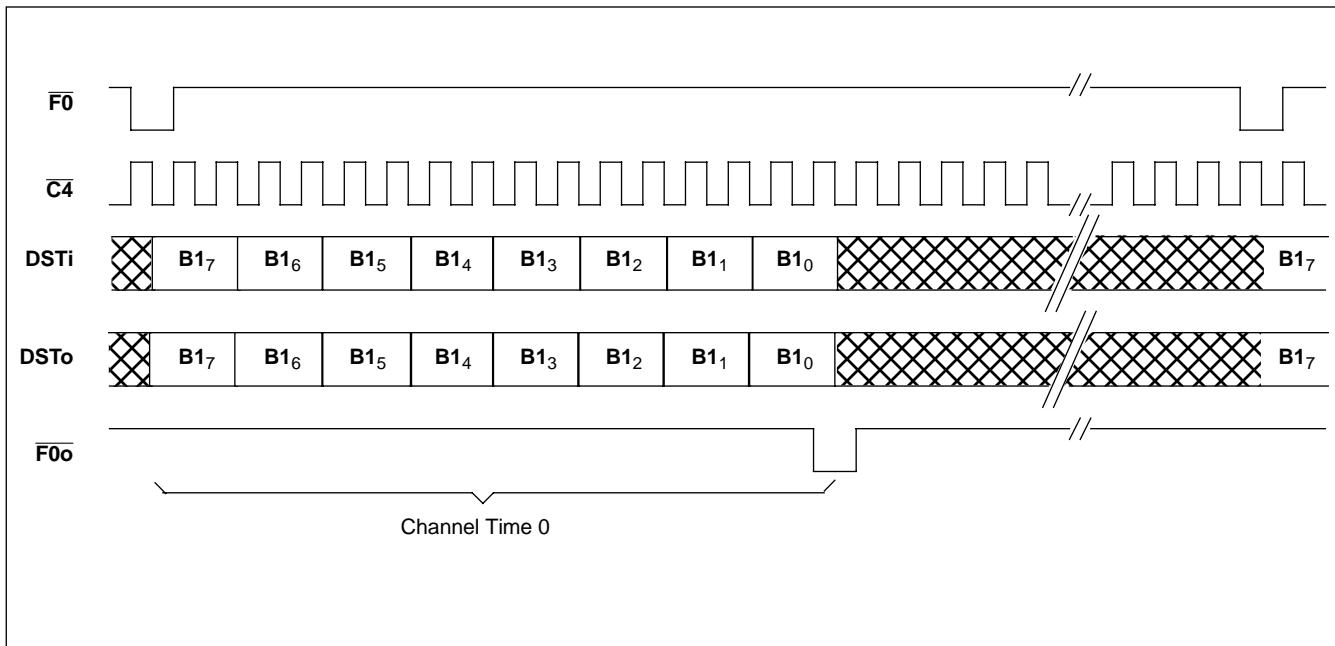
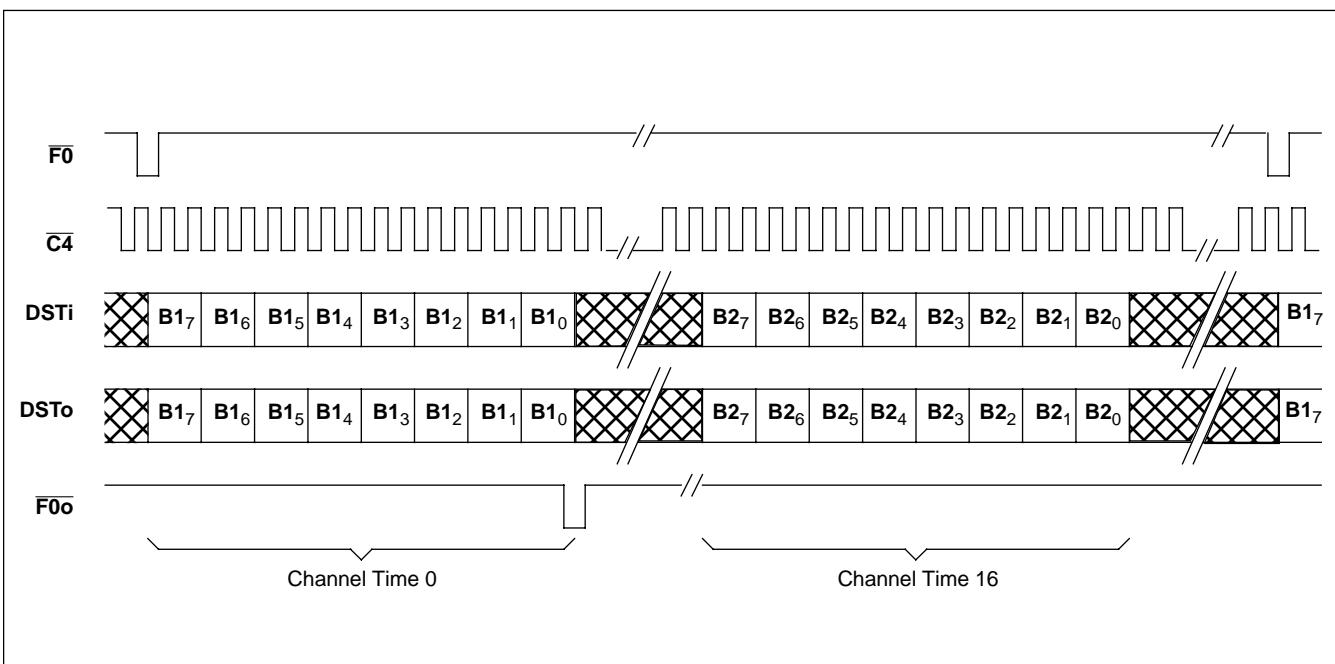
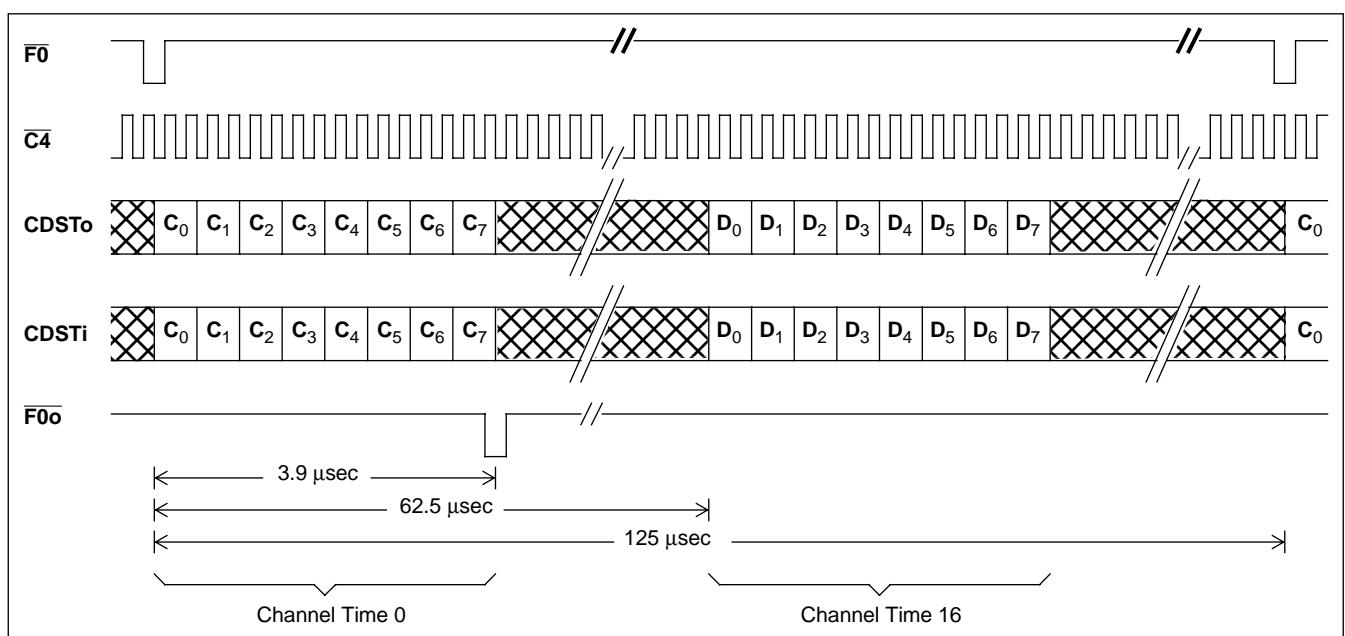
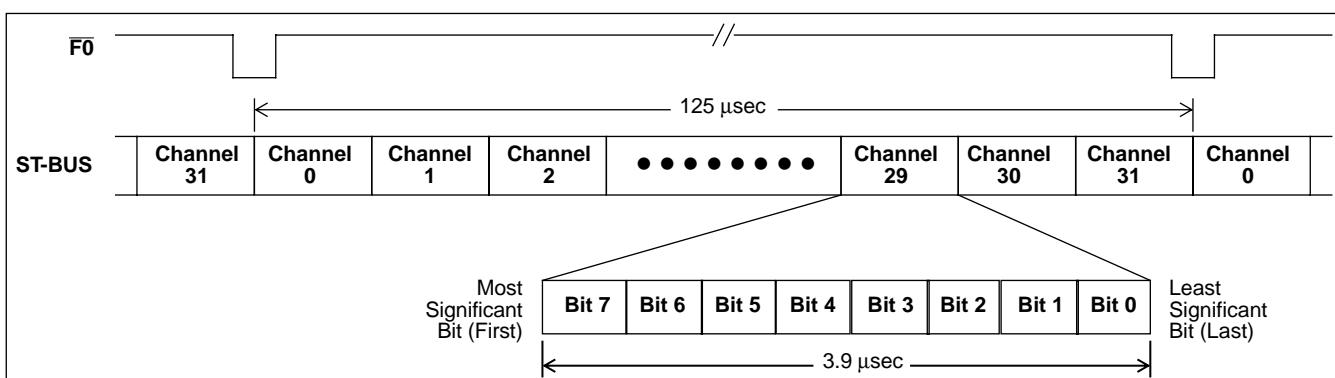

Figure 3 - DV Port - 80 kbit/s (Modes 2, 3, 6)
Figure 4 - DV Port - 160 kbit/s (Modes 2, 3, 6)
Figure 7 - CD Port (Modes 2,6)
Figure 9 - ST-BUS Format
In DIGITAL NETWORK (DN) mode there are three channels transferred by the DV and CD ports. They are the B, C and D channels. The B1 and B2 channels each have a bandwidth of 64 kbit/s and are used for carrying PCM encoded voice or data. These channels are always transmitted and received through the DV port (Figures 3, 4, 5, 6). The C-channel, having a bandwidth of 16 kbit/s, provides a means for the system to control the DNIC and for the DNIC to pass status information back to the system. The C-channel has a Housekeeping (HK) bit which is the only bit of the C-channel transmitted and received on the line. The 2B+D channel bits and the HK bit are double-buffered. The D-channel can be transmitted or received on the line with either an 8, 16 or 64 kbit/s bandwidth depending on the DNIC's mode of operation. Both the HK bit and the D-channel can be used for end-to-end signalling or low speed data transfer. In DUAL port mode the C and D channels are accessed via the CD port (Figure 7) while in SINGL port mode they are transferred through the DV port (Figures 5, 6) along with the B1 and B2 channels.
The DV port transfers data or PCM encoded voice to and from the line according to the particular mode selected by the mode select pins. The modes affecting the configuration of the DV port are MOD or DN and DUAL or SINGL. In DN mode the DV port operates as an ST-BUS at 2.048 Mbit/s with 32, 8 bit channels per frame as shown in Figure 9. In this mode the DV port channel configuration depends upon whether DUAL or SINGL port is selected. When DUAL port mode is used, the C and D channels are passed through the CD port and the B1 and B2 channels are passed through the DV port. At 80 kbit/s only one channel of the available 32 at the DV port is utilized, this being channel 0 which carries the B1-channel. This is shown in Figure 3. At 160 kbit/s, two channels are used, these being 0 and 16 carrying the B1 and B2 channels, respectively. This is shown in Figure 4. When SINGL port mode is used, channels B1, B2, C and D are all passed via the DV port and the CD port is disabled. See CD port description for an explanation of the C and D channels.
The CD port is composed of the C and D-Channels. The C-channel is used for transferring control and status information between the DNIC and the system. The D-channel is used for sending and receiving signalling information and lower speed data between the line and the system. In DN/DUAL mode the DNIC receives a C-channel on CDSTi while transmitting a C-channel on CDSTo. Fifteen channel times later (halfway through the frame) a D-channel is received on CDSTi while a D-channel is transmitted on CDSTo. This is shown in Figure 7. The order of the C and D bytes in DUAL port mode can be reversed by the mode select pins. See Table 1 for a listing of the byte orientations.